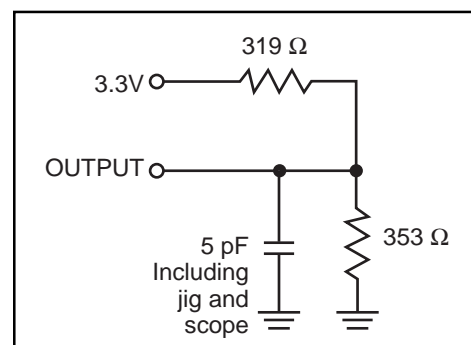

Figure 2
2. Tested with the load in Figure 2. Transition is measured  $\pm 200$  mV from steady-state voltage. Not 100% tested.